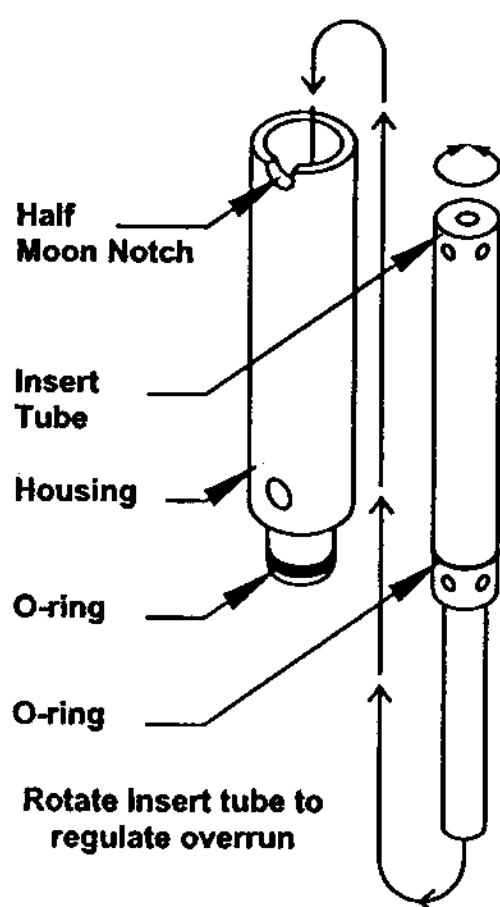

Fig. 5
5. Remove the front plate by turning the black plastic knobs in a counterclockwise direction (Fig. 5). Disassemble the front plate in the following manner:
1. Remove the carburetor tubes (Fig. 5) from the mix inlet holes and lay in the bottom of the mix pans.